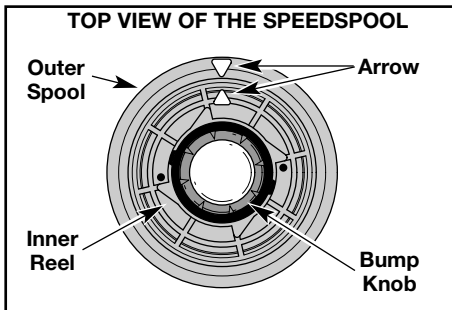

Fig. 17
1. Line up the arrow on the inner reel with the arrow on the outer spool (Fig. 17).